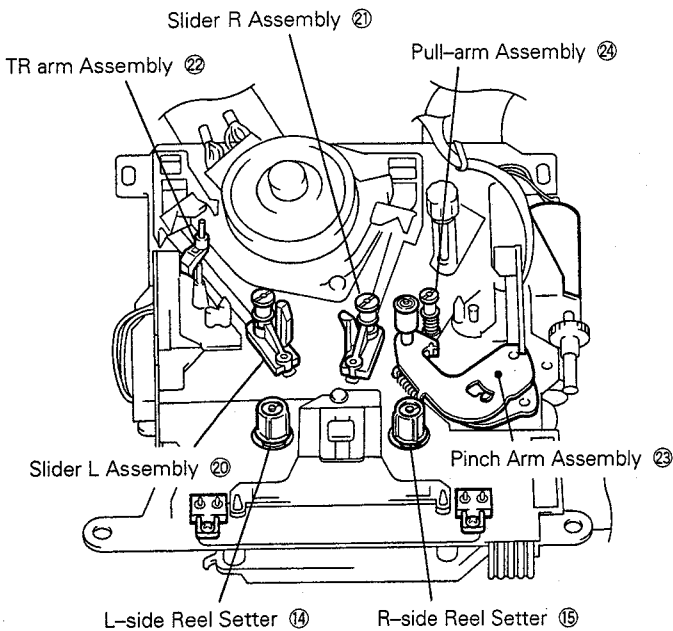

Fig. 14-10 Unthreading State (Top)
5. As threading arm L ⑩ and R ⑪ rotate, both slider L assembly ⑳ and R assembly ㉑ move along the groove of the mechanical chassis. As pull-arm assembly ㉔ rotates, pinch arm assembly ㉓ is pulled and starts rotating (see Figs. 14-10 and 14-11). (At this time the tape is extracted from L-side reel setter ⑭ by sliders L ⑳, R ㉑, and pull-arm assembly ㉔.)